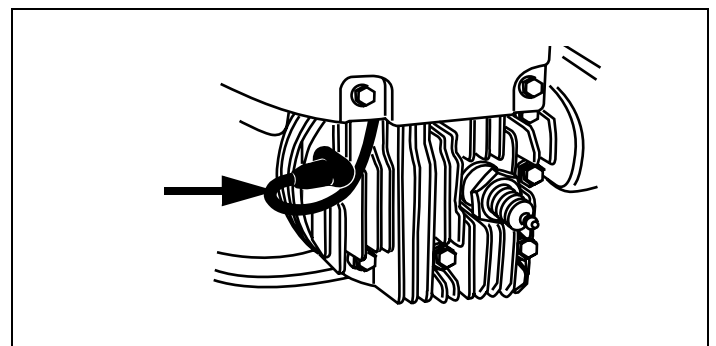

Figure 37. Spark Plug Grounding Post
- Attach the spark plug wire to the grounding post, if provided. See Figure 37.
10. Carefully disconnect spark plug wire from grounding post, if provided. See Figure 37.